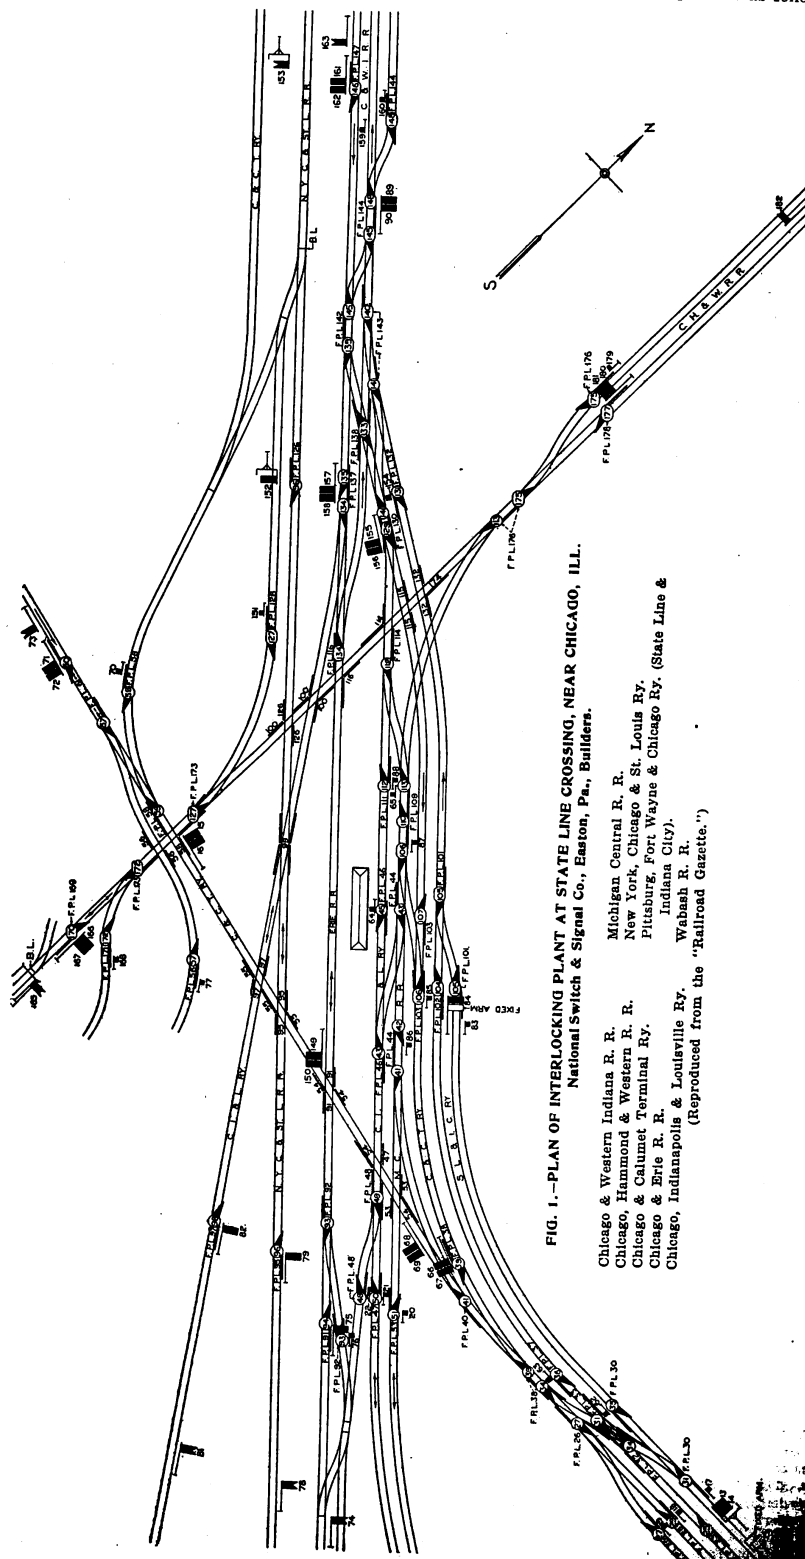

FIG. 1.—PLAN OF INTERLOCKING PLANT AT STATE LINE CROSSING, NEAR CHICAGO, ILL.
This plant is at the State Line crossing, just south of the Chicago city limits, and near Hammond, Ind., where several railways cross and connect with each other. During the past year, the Chicago, Hammond & Western R. R., which is one of the important terminal roads of Chicago, built an extension of its line which intersected this crossing, and under the laws of the State of Illinois it developed upon this road to put in an interlocking plant for the protection of the entire crossing as a whole. The plan, Fig. 1, will give an idea of the complicated system of crossings and junctions to be protected. The tracks are used by eleven railway companies, eight of which own tracks, while three use the tracks as tenants. The eight owning companies are as follows: (1) Chicago, Hammond & Western R. R.; (2) Chicago & Western Indiana R. R.; (3) Chicago Terminal Transfer R. R.; (4) Chicago & Erie R. R.; (5) New York, Chicago & St. Louis R. R.; (6) Michigan Central R. R.; (7) Chicago, Indianapolis & Louisville Ry.; (8) Chicago & Indiana State Line R. R. (a terminal line of the Pennsylvania Lines West of Pittsburg). The three tenant companies are as follows: (9) Wabash R. R.; (10) Elgin, Joliet & Eastern R. R.; (11) Chicago, Lake Shore & Eastern R. R.